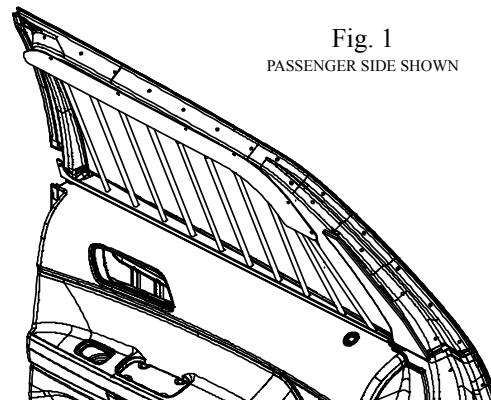

Fig. 1
- B. From the inside of the door place the Armor into the corresponding window opening with the lower rail resting on the top of the OEM Door Panel. Ensure that the rear lip of the lower rail is hooked behind the OEM Door Panel and on top of the rubber window seal (See Fig. 1). Center the outside of the metal mounting frame on the door front to back. Install the screws at each side of the upper rail first then work up each side installing the rest of the screws. The supplied screws (3X72) are a Type A-self tapping but sometimes it is necessary to drill a 7/64" pilot hole.